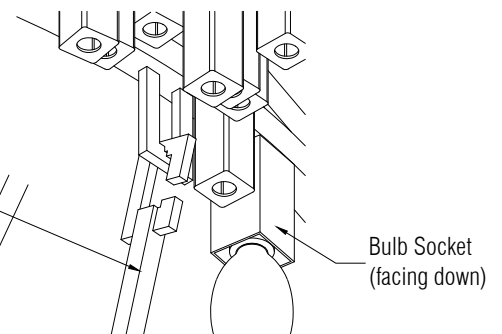

FIGURE 06
6. Again, attach the 4-Stem hook-2 (S) under the 1st tier frame. (see fig. 06).
8. Attach the 3-stem hook-2(S) under 2nd tier frame. (see fig.06)
10. Again, attach 3-stem hook-2(S) under 3rd tier frame. (see fig.06)